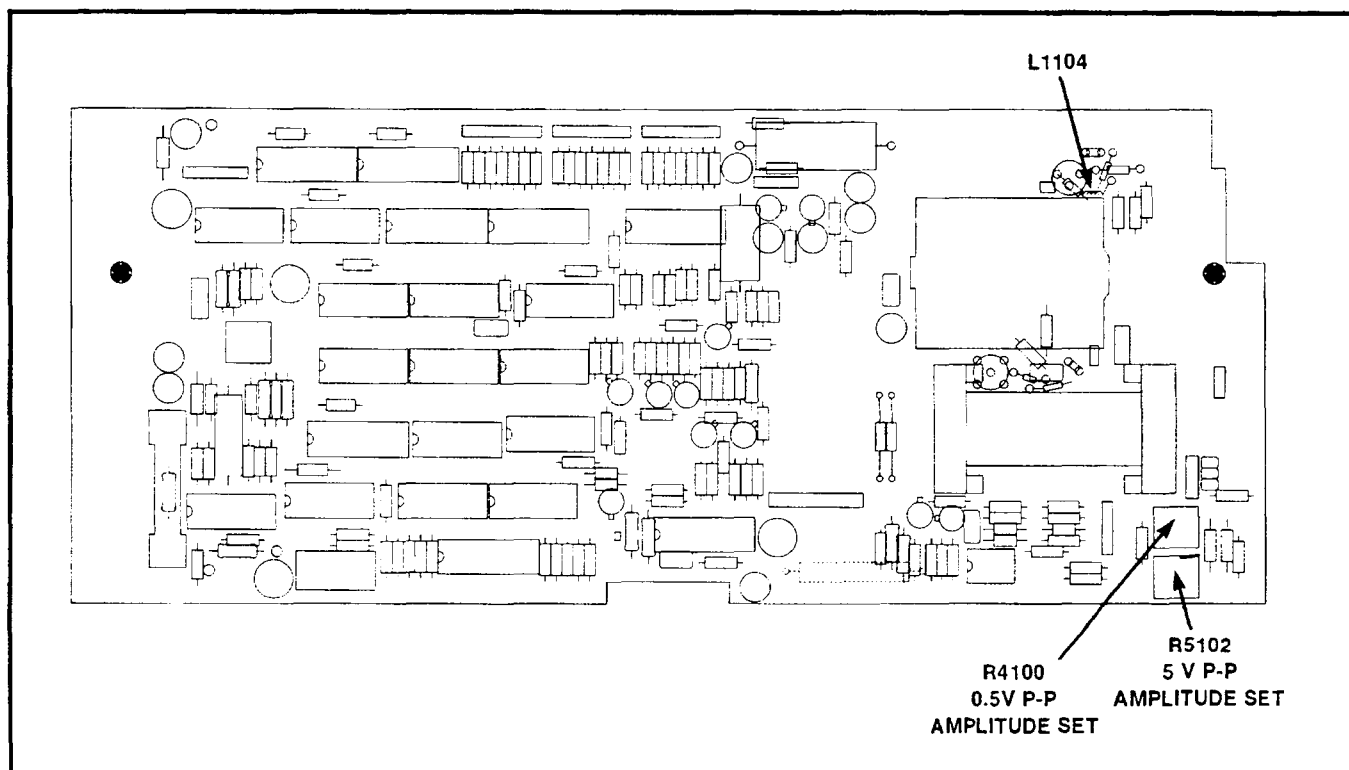
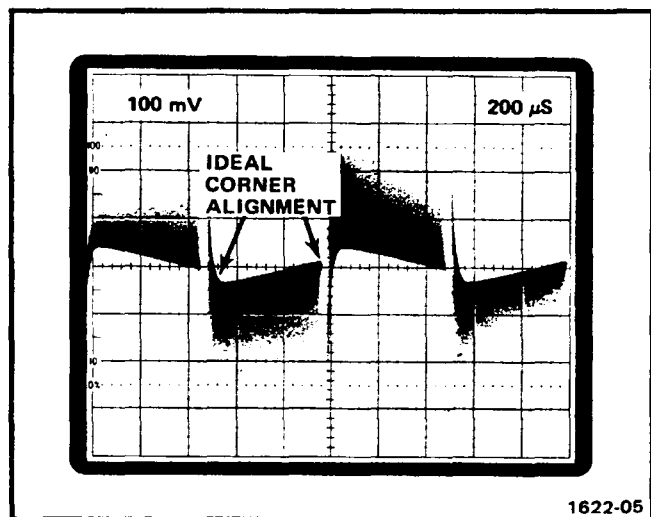

Fig. 3-2. Location of L1104, 0.5 V P-P, and 5 V P-P Amplitude Set.
Fig. 3-3. Display of complex waveform (idealized) obtained when the amplitude set controls are properly adjusted at 0.05 MHz.
d. Set the time-base triggering controls for a stable display; a crt display similar to Fig. 3-3 is obtained.
e. Check—that the corners of the idealized waveform are aligned as illustrated in Fig. 3-3. Disregard waveform tilt.
f. Adjust-5.0 P-P Amplitude Set, R5102, so the corners of the idealized waveform are aligned as illustrated in Fig. 3-3. See Fig. 3-2 for adjustment location.
i. Check—that the waveform is similar as illustrated in Fig. 3-3.
j. Adjust-0.5 V P-P Amplitude Set, R4100, so the corners of the idealized waveform are aligned as illustrated in Fig. 3-3. See Fig. 3-2 for adjustment location.
c. Check—that the corners of the idealized waveform are not separated by more than 1.5 vertical divisions. See Fig. 3-3 for waveform illustration.
g. Check—that the corners of the idealized waveform are not separated by more than 1.5 vertical divisions. See Fig. 3-3 for waveform illustration.
e. Adjust-L1104 (physically moving coil), to meet the suppression requirement as given in part d of this step. See Fig. 3-2 for adjustment location.